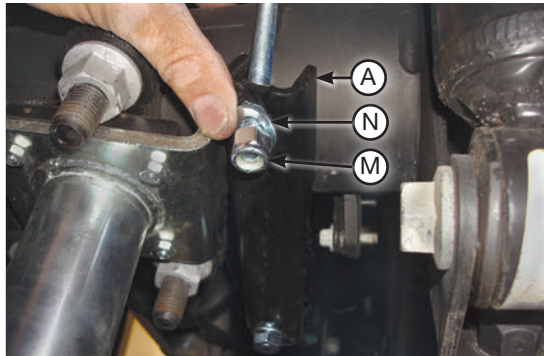

fig. D.17
- Set the lower clamp bars (A) over the carriage bolts located under the axle (Fig. D.17). Attach with the 3/8" flat washers (N) and 3/8"-16 nylon lock nuts (M). Evenly torque the lower clamp bar hardware to 16 lb.-ft. (22Nm). Finish tightening the U-bolt hardware previously snugged by torquing to 10 lb.-ft. (14Nm).